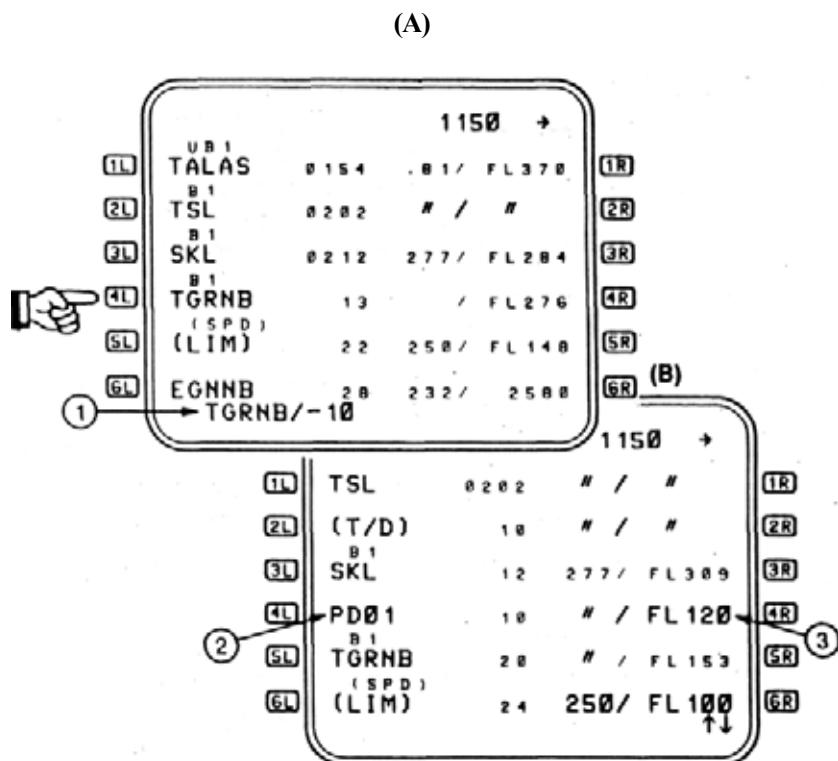

Figure 2-122
1. On either F-PLN page - write TGRNB/-10 in the SP (Display (A) (1), Figure 2-122).
In (Display (B), Figure 2-122), the ATO waypoint is identified by the FMC as PD01, the first of 20 possible pilot defined waypoints. Notice the ATO occurs 10 NM before TGRNB, and the altitude constraint, FL120, is displayed in large font, to indicate it is a pilot entry and does not come from the FMC. If the ATC clearance also included a speed restriction at TGRNB, that could also be placed in data line 4R .e.g. - 210/FL120 See 3.1.3.2.6 - WAYPOINT INSERTION/F-PLN A and B pages.